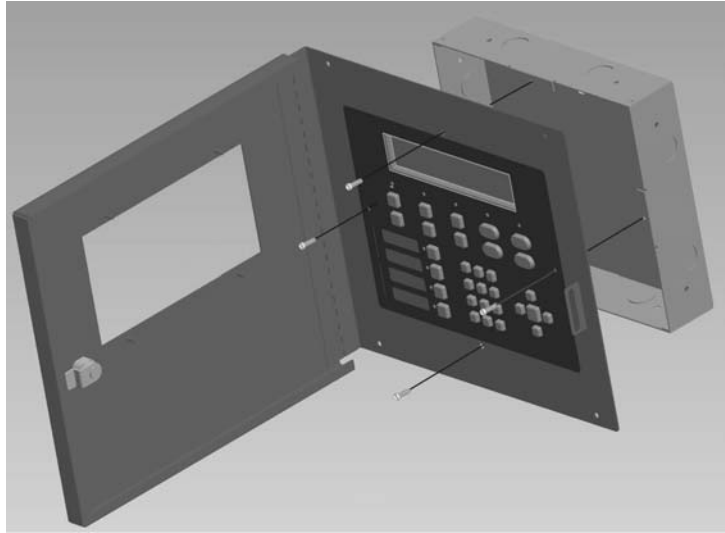

Figure 4-14 Attaching Annunciator / Door Assembly to Backbox
- Attach the annunciator and door assembly to backbox as shown in Figure 4-14 using the supplied screws.
6. Attach the annunciator and door assembly to the backbox using screws provided (see Figure 4-14).
- Attach the annunciator/ door assembly to backbox as shown in Figure 4-14 using the supplied screws.